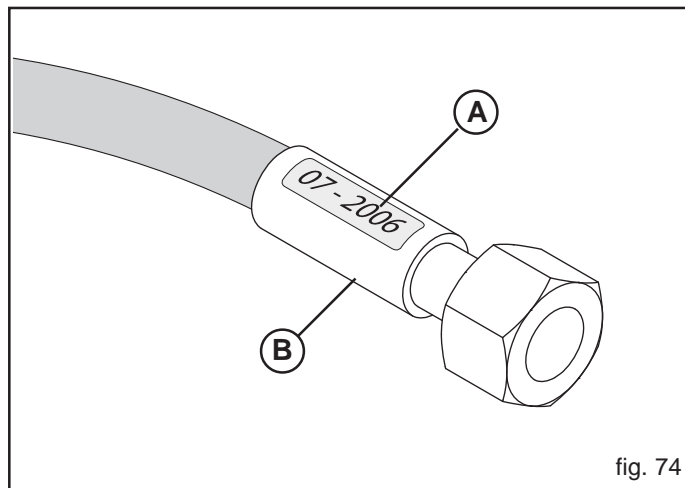

fig. 74
- Replace the hydraulic pipes every 5 years even if they have not been used (natural aging). Figure 74 (A) shows hydraulic pipes bearing the year of manufacture as an example.
- when leaks are identified near the pipe sheath (B, Fig. 74);
- when the sheath is corroded (B, Fig. 74);
- 5 years after their manufacture (A, Fig. 74).